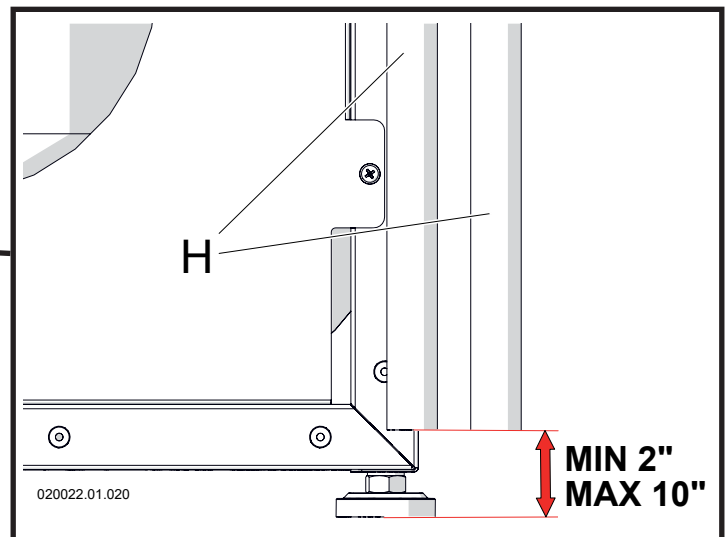

Figure 8-1 Piping of the P-T relief valve discharge and piping the water connections
Reducing the pipe size can restrict the flow rate through the water heater, causing poor system performance. Basic steps are listed below along with illustrations on Figures 8-1 and 8-5, which will guide you through the installation of the water heater.
1. Connect the cold water supply to the inlet side of the water heater using the factory supplied items "P" and "S" of Figure 8-1.
2. Connect the hot water supply to the outlet side of the water heater using the factory supplied items "P" and "S" of Figure 8-1.
This water heater is supplied with a Safety Temperature and Pressure Relief valve which discharge connection must be piped in accordance with the ANSI/ASME Boiler and Pressure Vessel Code, Section IV, to prevent scalding in the event of a discharge. Pipe the discharge of the safety relief valve like on Figure 8-1. to a suitable drain to prevent injury in the event of pressure relief. Pipe the discharge to a drain. Provide piping that is the same size as the safety relief valve outlet.
Key to Figure 8-1